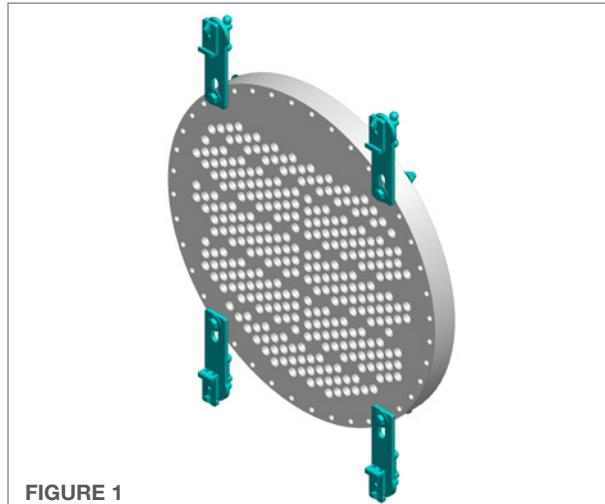

FIGURE 1
**QUICK CLAMPS (LWP 518)** are for use with heat exchanger flanges that provide a robust clamping surface or if flange holes are inaccessible. Align clamps on the surface of the flange to maximize flange engagement to clamps. (Figure 1)
**SLOTTED QUICK (LWP 552) AND PLATE CLAMPS (LWP 519)** are for use with heat exchanger flanges that have easily accessible bolt holes. Use quick clamps or plate clamps, depending on the spacing of the hole pattern. (Figures 1 & 3)
1. Mount the appropriate frame **Positioner Clamps** to the tube bundle as shown on the previous page. (Shown in Figure 1 with Slotted Quick Clamps) Positioner Clamps should be aligned horizontally with the direction of the tube rows. (**Figure 1**)